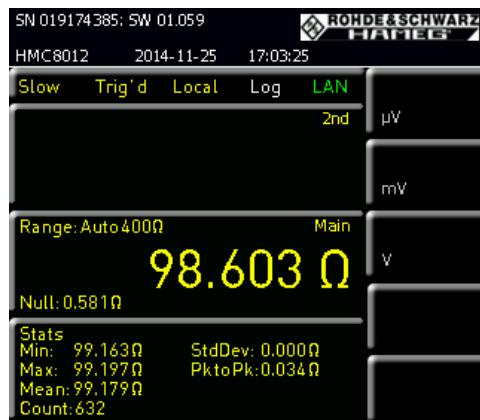

Fig. 2-12: Display of a resistance measurement.
- Additional statistical values such as max., min., mean, etc. are displayed under the main measurement result (Fig. 2-12). To hide the values or to change the settings, press the **MEAS** key and select the **STATS** softkey.
- Additional statistical values such as max., min., mean, etc. are displayed under the main measurement result (Fig. 2-12). To hide the values or to change the settings, press the MEAS key and then select the STATS softkey.